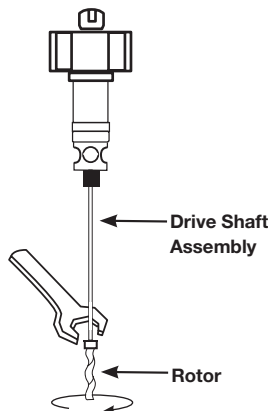

Figure 8
- Hold the drive shaft in a fixed position and loosen the rotor (counterclockwise) located at the bottom of the drive shaft (see Figure 8).
- Thread rotor onto drive shaft (see Figure 8).